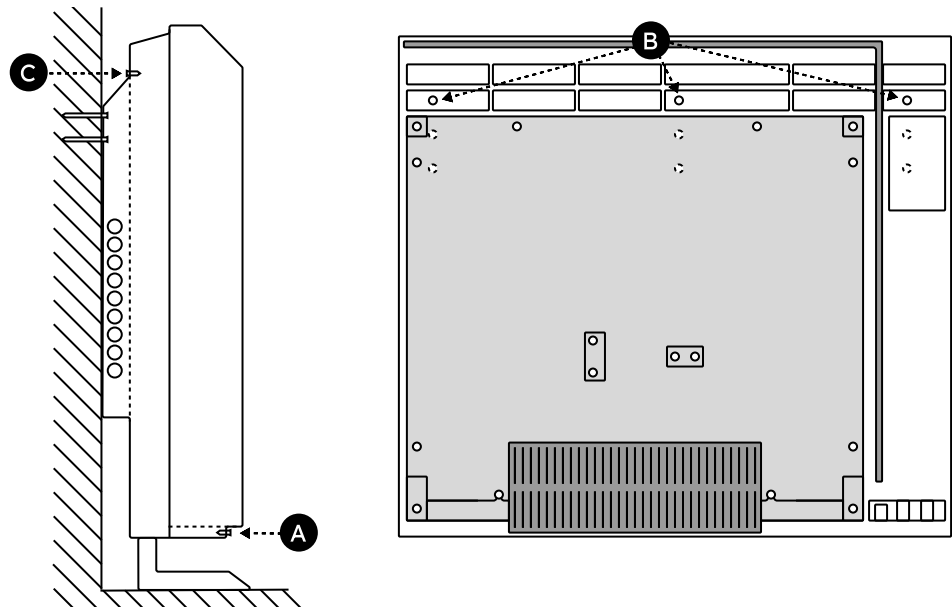

Figure 2 | Installing the anchoring screws
3. Remove the 2 screws near the base (**A**). Remove the front panel by sliding the panel up and off the slotted screws at the top of the radiator. (**Figure 2**)